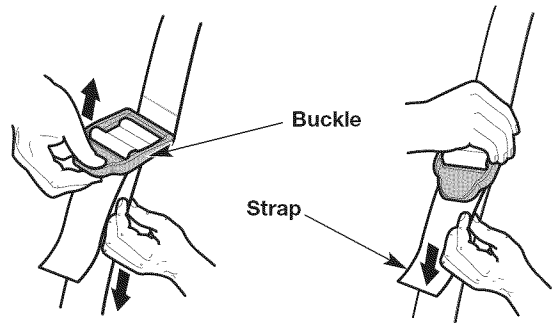

Fig. 10
6. Adjust the shoulder strap to fit the operator (Fig. 10). Pull the buckle up to loosen the shoulder strap. Pull the strap down to tighten the shoulder strap.